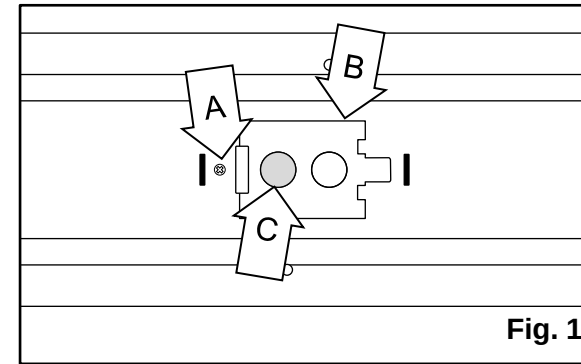

Fig. 1
1. Remove the **screw (A)** near the **access plate (B)** located on the back of the fixture. [Fig. 1]
2. Punch out one of the **knockouts (C)** in the **access plate (B)**. [Fig. 1]
5. Place the **access plate (B)** back onto the fixture and secure it with the **screw (A)** that was previously removed. [Fig. 1]
1. Remove the two **screws (E)** near the cover located on the back of the fixture. Remove the cover. [Fig. 1]